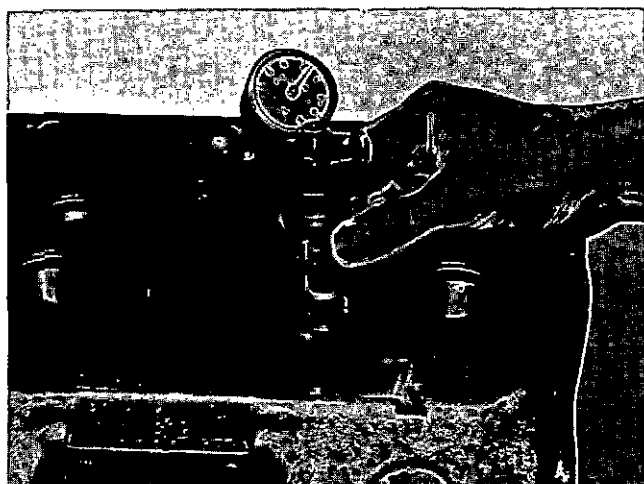

Fig. 2-3-5, V40233. Indicate valve seat insert face
a. If seating area (2) is wider than 1/8 inch [3.1750 mm] maximum, stock can be removed from points "A" and "B" with specially dressed valve seat grinder stones.
8. Check valve seat concentricity with valve seat indicator as shown in Fig. 2-3-5.